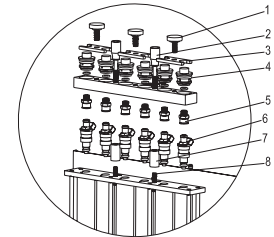

Figure.03
- According to the height of the injector, select the appropriate adjusting screw and knurled nut to install on the oil separator bracket. Then install the oil separator and fuel injector on the oil separator bracket and evenly tighten the two knurled screws (black). The installation diagram is shown in Figure.03.